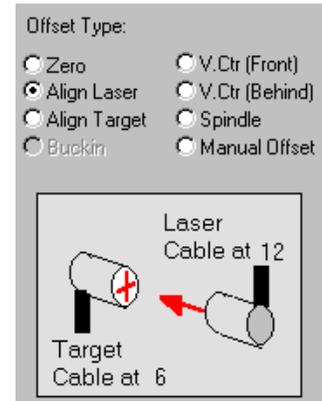

Figure 51- *Align Laser Offset – First Reading (laser inverted)*
3. Select *Align Laser* and orient the laser as shown in Figure 51.